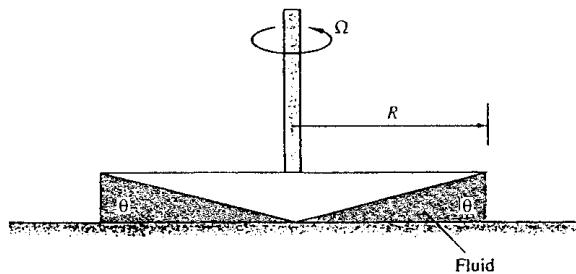

Fig. P5.35
- 5.35** The torque  $M$  required to turn the cone-plate viscometer in Fig. P5.35 depends upon the radius  $R$ , rotation rate  $\Omega$ , fluid viscosity  $\mu$ , and cone angle  $\theta$ . Rewrite this relation in dimensionless form. How does the relation simplify if it is known that  $M$  is proportional to  $\theta$ ?